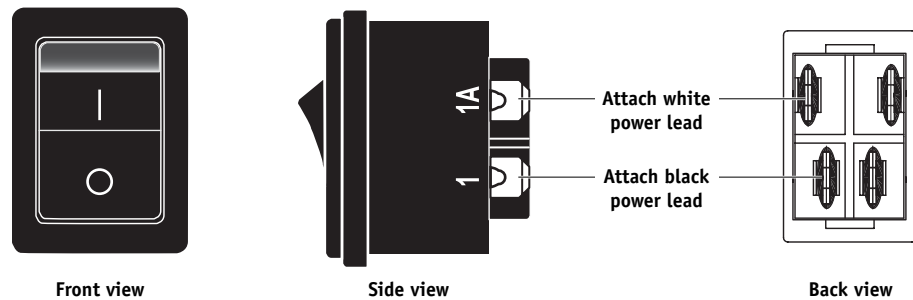

FIGURE 4-27 Attaching power switch leads to the power switch
8. Remove the black and white power switch leads from the power switch (see Figure 4-27 on page 4-48 for detail of the power switch).